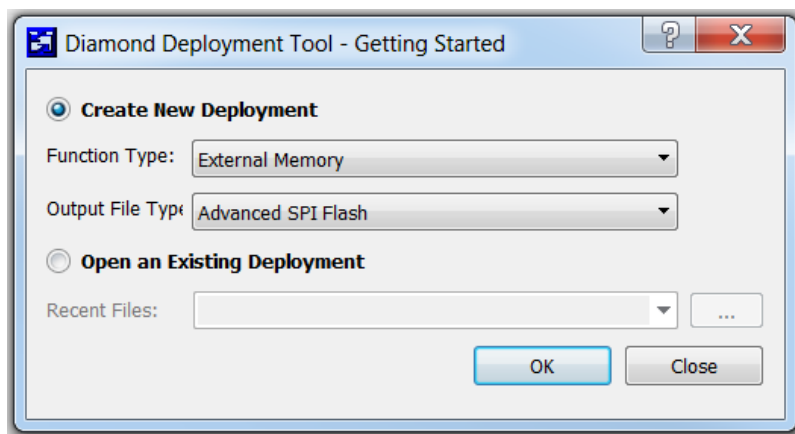

Figure 5.1. Getting Started Dialog Box
1. In the **Getting Started** dialog box, select the options below, also shown in Figure 5.1, and click **OK**.